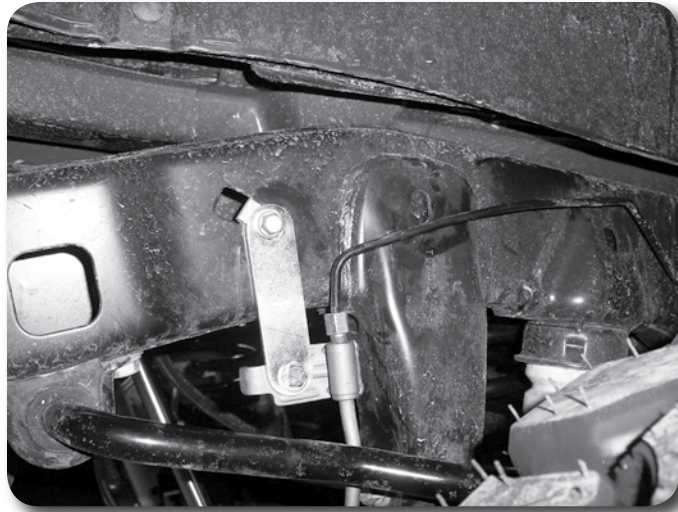

Figure 11A
17. Install brakeline relocation brackets to the original brake line mounting point on the frame. Attach the bracket with the factory bolt. Attach the brake line to the INSIDE surface of the drop bracket with a 1/4" x 3/4" bolt, nut and washers (Figure 11A/B). Torque hardware to 10 ft-lbs.